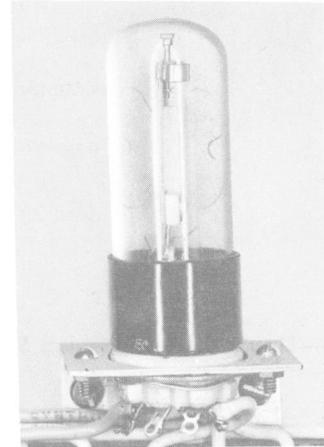

Fig. 1—Thermal Relay
1.05 Requirements 2.01 and 2.03 apply to the T.A. Edison B1642 Model 501 115-NC-10, the KS-14566 thermal relay, and the Adams & Westlake 1140-45-MM relay. They are completely enclosed and should be replaced if they fail to meet requirements in the circuit requirements table or are otherwise defective. (See Fig. 1 and 2.)